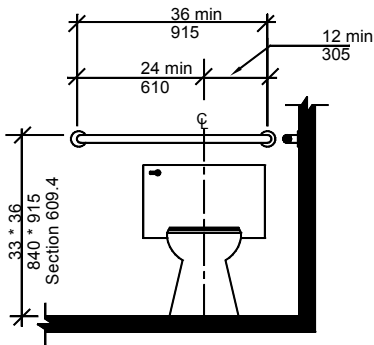

Figure 2: Grab bar location behind toilet
- Both horizontal and vertical grab bars must be provided as shown (Refer to Figures 2 and 3). Toilet paper dispenser mounted below the horizontal grab.